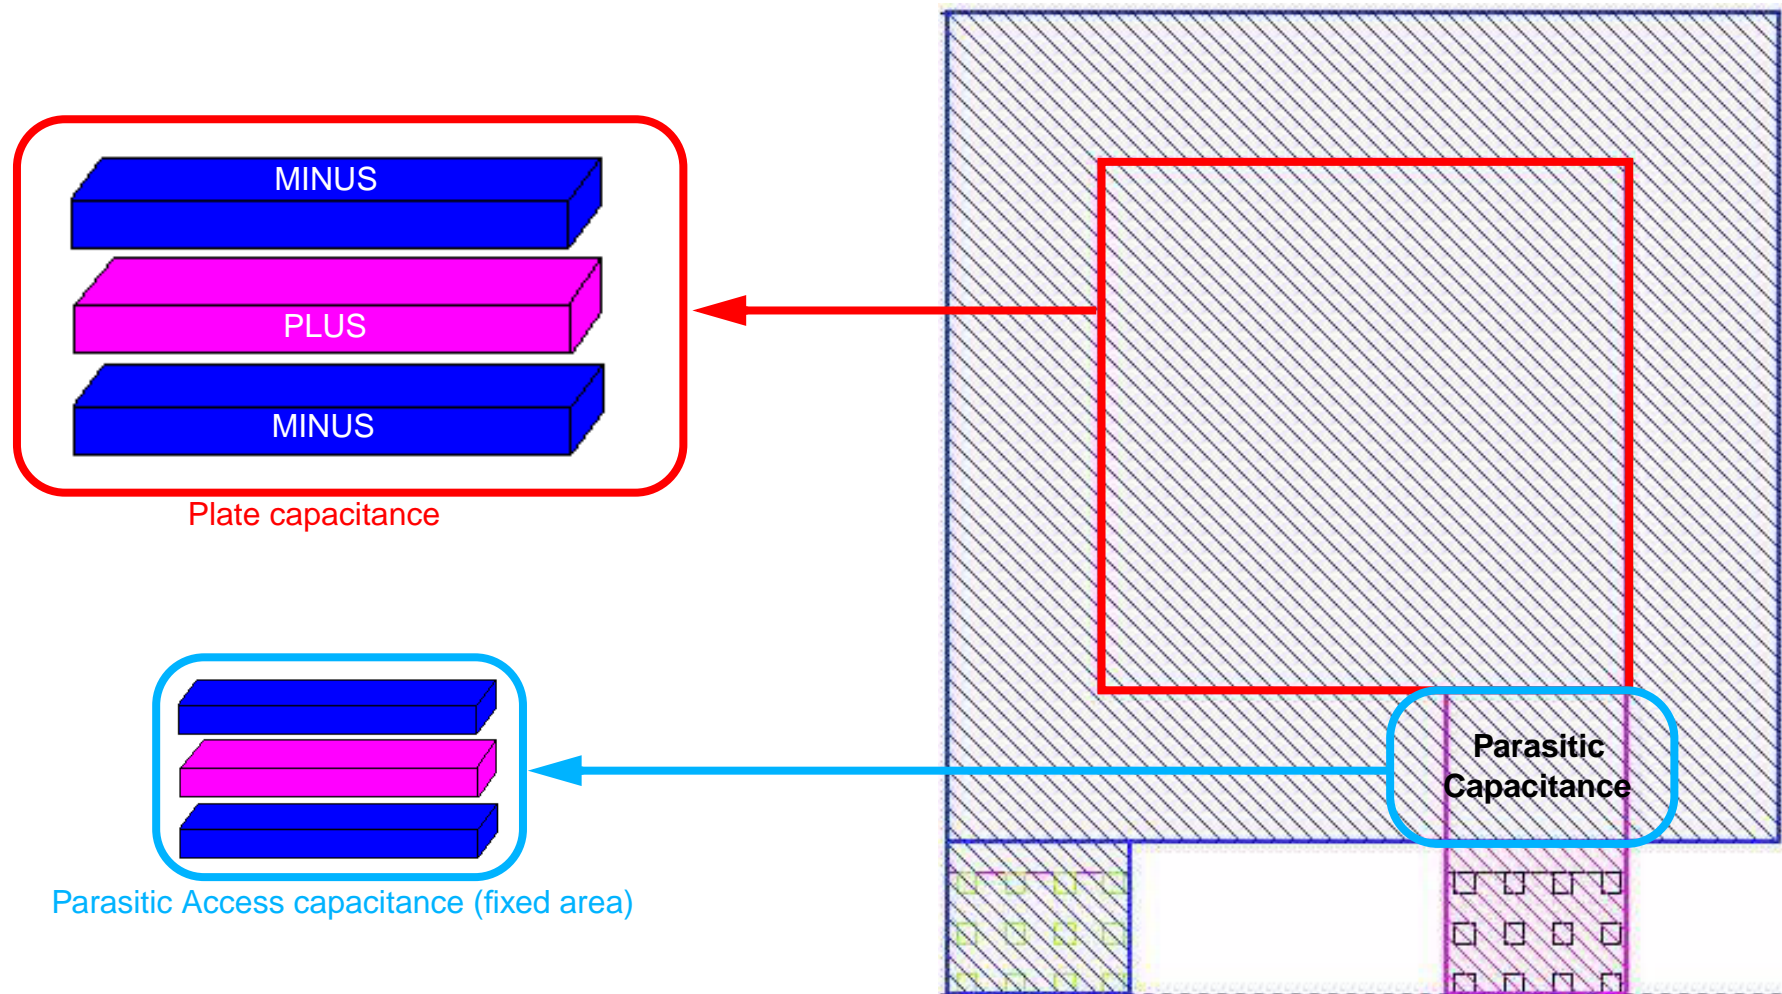

Figure 3 - Capacitance distribution
2. See figure 3.
- C_c (1): intrinsic (main) capacitor between the Plus/Minus terminals.
- Cap_para (2): parasitic capacitor between the plus and minus terminals due to acces to PLUS pin (see figure 3).
Capacitance value is written as (see figure 3):
Cap_{1x_para} (Cap_{xx_para}) : capacitance value (fixed) of parasitic access (see figure 3)